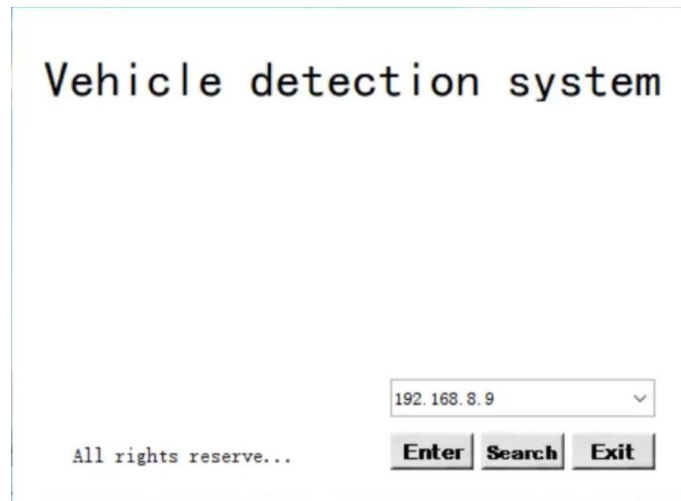

Figure 3-1: Software Login Interface
3.3.2. Device Connection: Open the "Vehicle Wireless Detection Management System" software, enter the IP address: enter the IP address of the DPC on-site, and click "OK" to confirm. The default factory address for DPC is 192.168.8.9. The software login interface is shown in Figure 3-1.